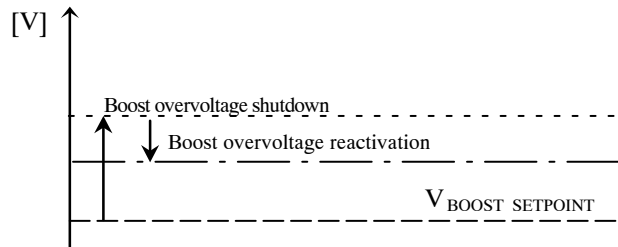

Figure 14. Booster Voltage Protection Levels with Respect to the Setpoint
- a. Whenever the boost overvoltage detection triggers in the control loop. The booster is automatically activated when the voltage falls below the hysteresis (Figure 14).